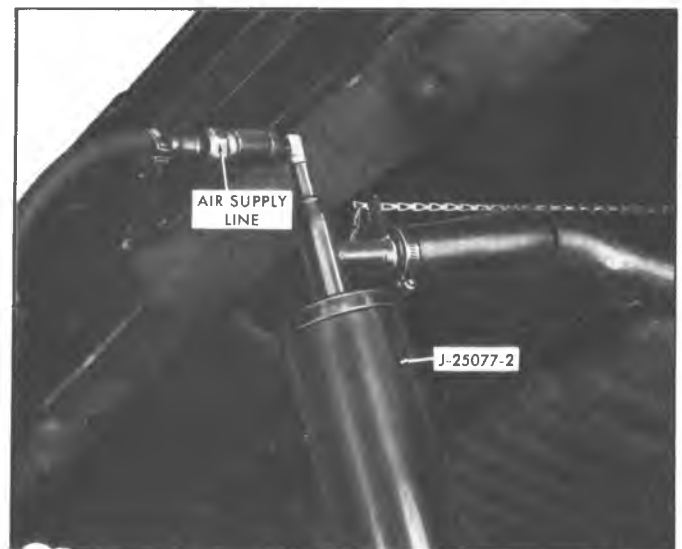

Fig. 6—Installing Aspirator
1. Install aspirator J-25077-2 (Fig. 6).